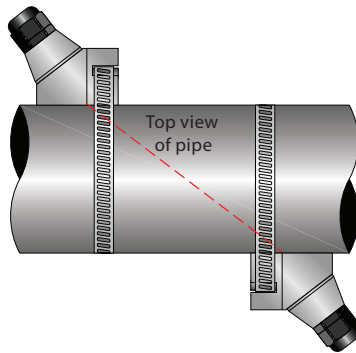

**Fig. 20 Application of couplant**
- 5) For UTT10-050S, UTT10-050L and UTT10-050H transducers, place a single bead of couplant, approximately 12 mm (1/2") thick, on the flat face of the transducer. See Fig. 20. Generally, a silicone-based grease is used as an acoustic couplant, but any good quality grease-like substance that is rated to not 'flow' at the temperature that the pipe may operate at will be acceptable.